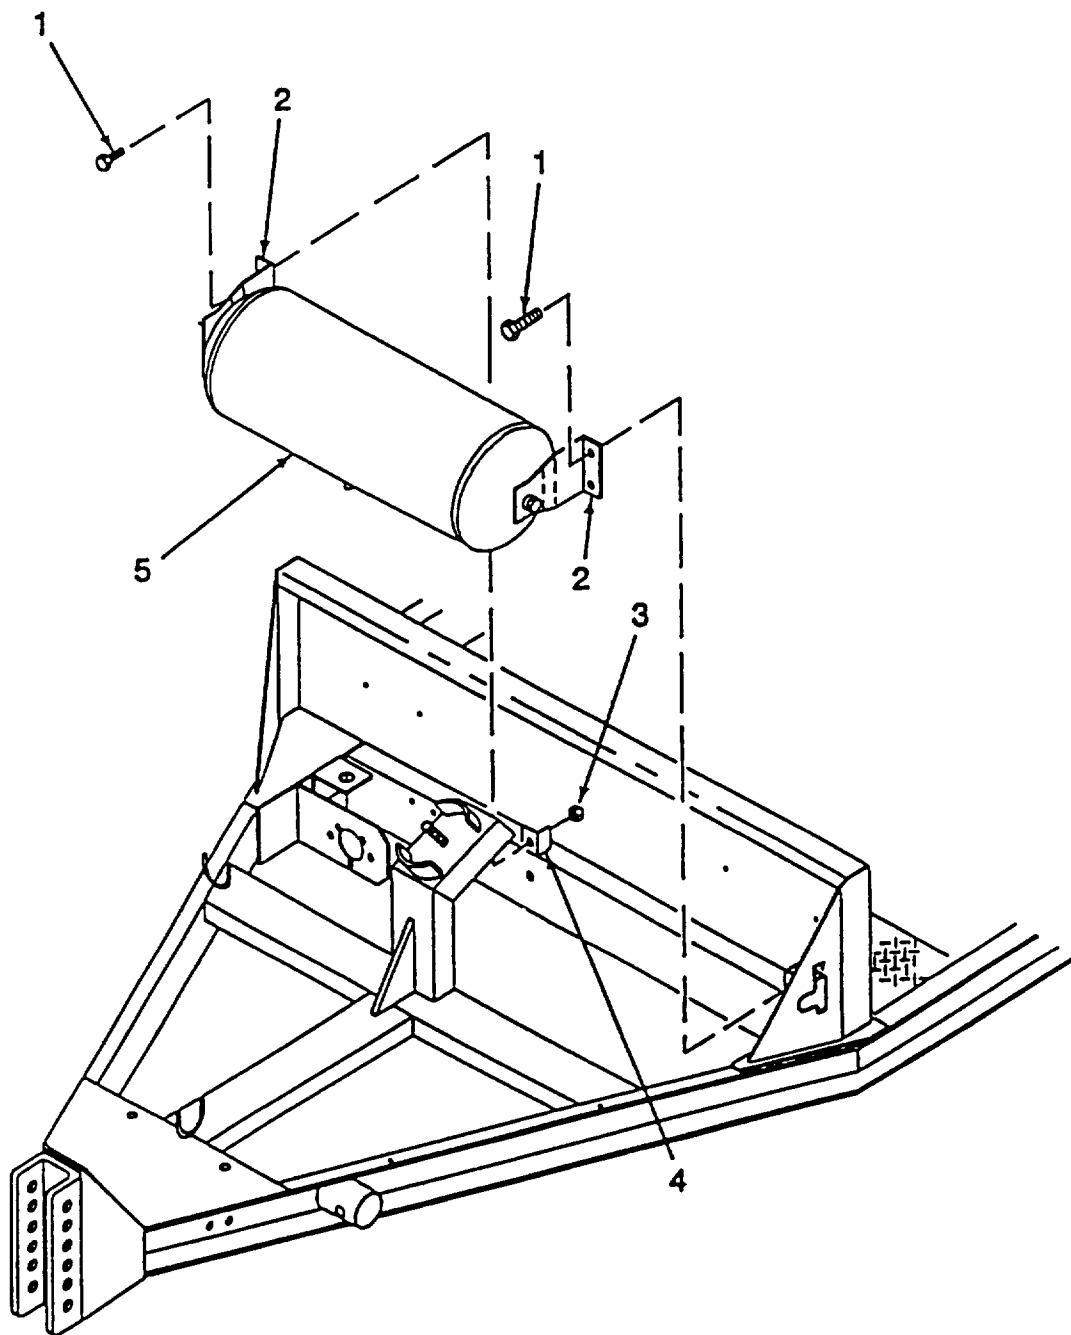

Figure 4-54. Air Tank Assembly
a. Removal. (Refer to Figure 4-54).
- (1) Remove four bolts (1) from air tank bracket (2) and four locknuts (3) from tank support brackets (4).
- (2) Remove air tank (5).